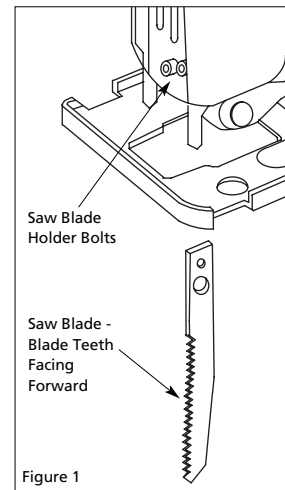

Figure 1
- Loosen the bolt counterclockwise on the blade holder with the allen wrench (see Figure 1).
- With the blade teeth facing forward, insert the blade into the blade holder as far as it will go. Make sure that the back edge of the blade fits into the roller (see Figure 1).